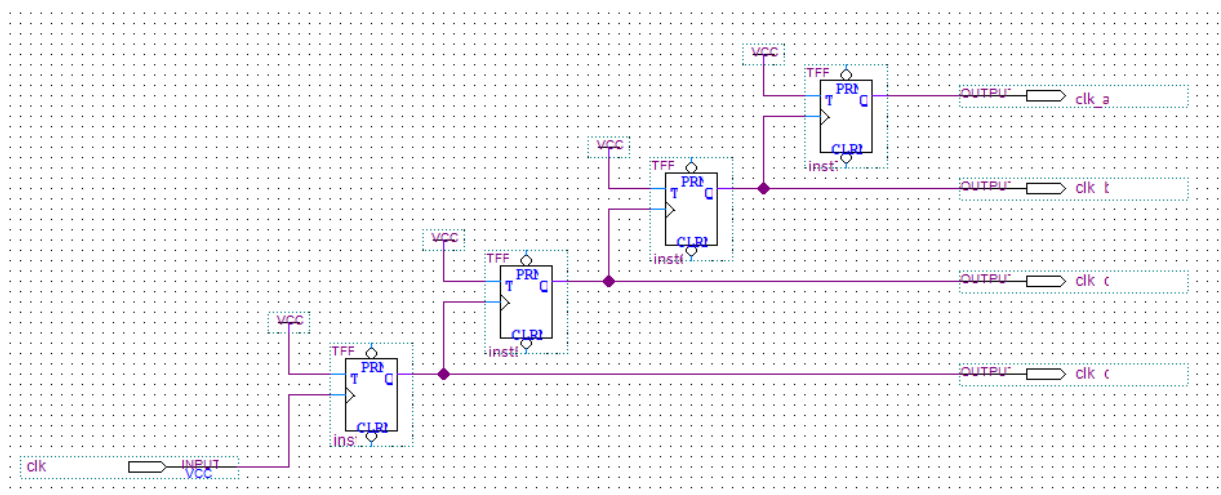

Fig. 3: Frequency divider (FreqDivider)
- **FreqDivider** – frequency divider generating 4 clock signals with frequencies equal to: 1/2, 1/4, 1/8 and 1/16 of the input signal frequency; implement the module based on the diagram in Fig. 3;